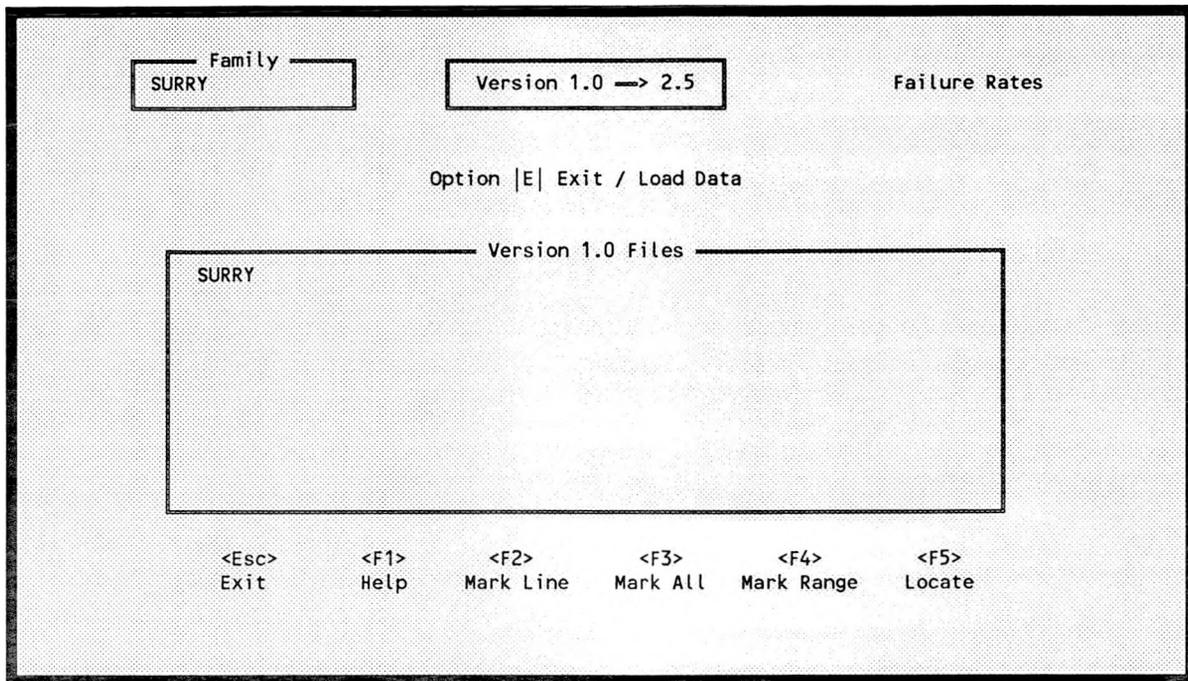

Figure 333. Family selection screen.
10.5.2.1 Failure Rates. This option allows you to convert basic events and their failure rates generated in Version 1.0 to Version 2.5. Version 1.0 of IRRAS stored this information in files with a ".RAT" extension, one ".RAT" file per family. When you invoke this option, Figure 333 will be displayed, listing all 1.0 files with the ".RAT" extension. To invoke this option for a single ".RAT" file, enter an <L> in the option field, highlight the desired file name, and press <Enter>. To invoke this process for a group of files, mark the desired files using the function keys F2, F3, and F4, enter an <L> in the option field, and press <Enter>. To invoke this option for all ".RAT" files, clear all marked entries, enter an <L> in the option field, and press <Enter>. A message **Process all records? (Y/N)** will appear at the bottom of the screen. Type a <Y> to convert all files, or type an <N> to terminate the conversion.